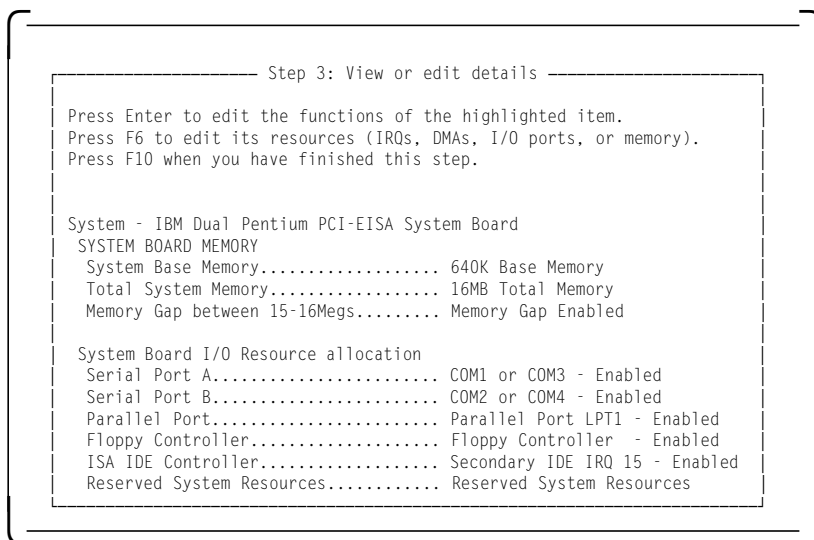

Figure 32. EISA Configuration Utility - Step 3
- b. Press Enter to view configuration details. You will see a screen similar to that shown in Figure 32